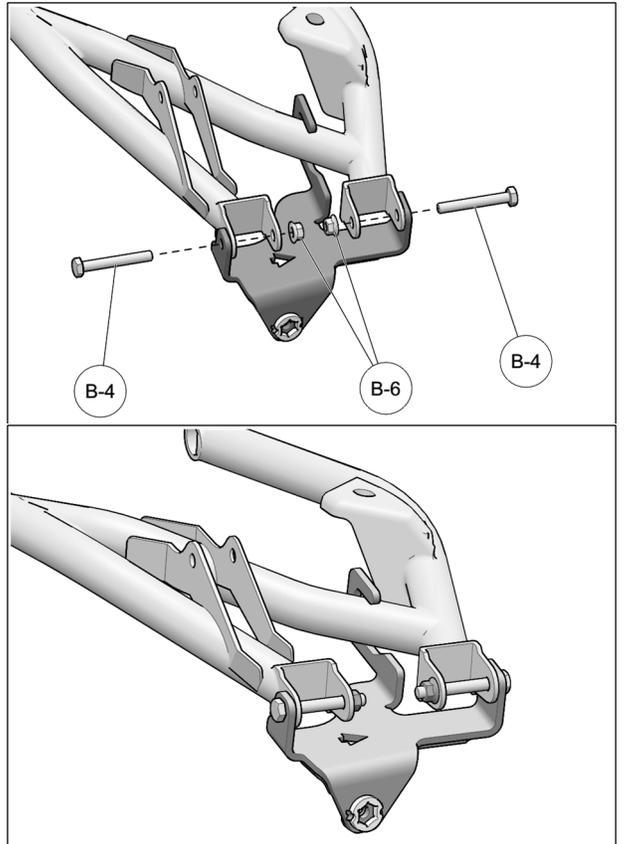

Fig. 7
7. Insert the new M10x75mm bolts (B4) in the anchor bracket, through the lower suspension arm and wheel hub. Secure assembly using the new M10 nuts (B6) provided. Tighten bolts to 70 N•m [52 lb•ft]. See Fig. 7